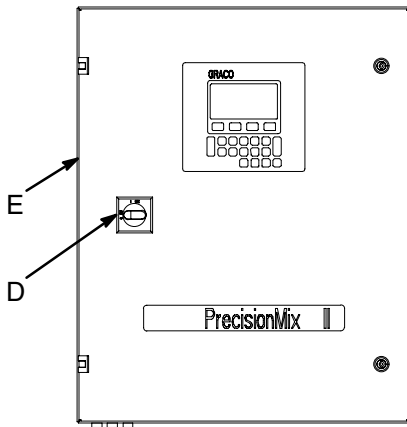
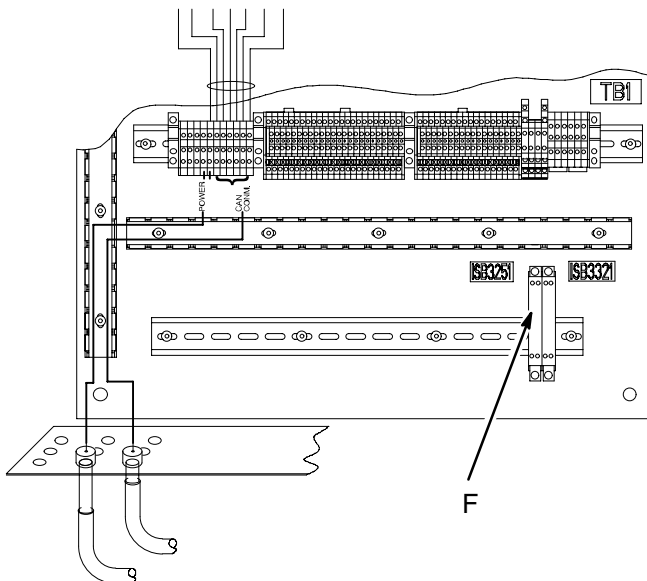
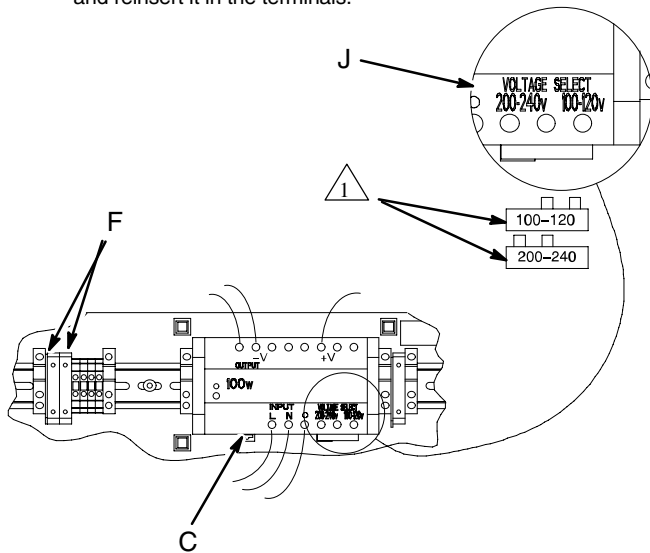

Fig. 11.3
Fig. 11.4
Fig. 11.6
1. Turn the PrecisionMix II power switch (D) to off. See Fig. 11.3.
2. Open the controller door (E).
3. Remove the barrier cover (F) for the fuse being replaced. See Fig. 11.4.
5. Install a new fuse (part no. 115429) and re-install the barrier cover (F).
5. Pull down the clips (C), holding the power supply in place. Remove the power supply from the din rail.
7. Locate the power supply jumper (J). See Fig. 11.6.
8. Make sure the jumper (J) is installed for the correct voltage (100–120 or 200–240 Vac). The voltage setting is visible on the front of the jumper.
4. Loosen the terminal screws and remove the jumper (J). See Fig. 11.6.
4. Remove the two fuses from the fuse holders (F). See Fig. 11.6. Install the two new fuses.